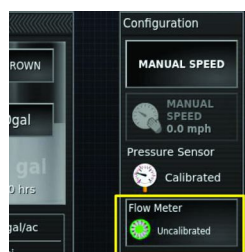

Figure 168
- Press the FLOW METER icon (Figure 168).